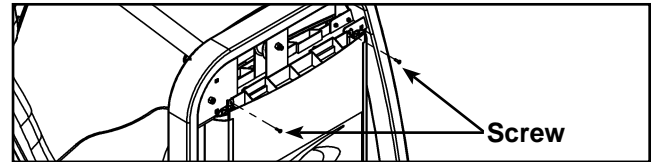

Figure 7
H. Remove the top two screws securing the back shroud. See Figure 7.